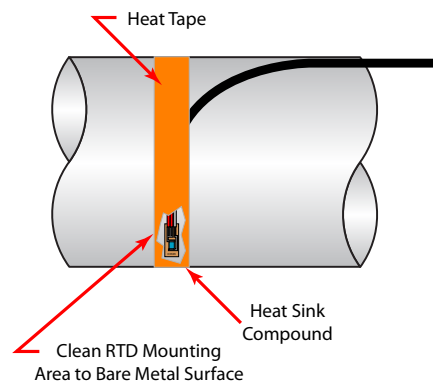

Figure 36: Surface mount RTD installation
4. Place a small amount of heat sink compound on the pipe in the RTD installation location. See *Figure 36*.